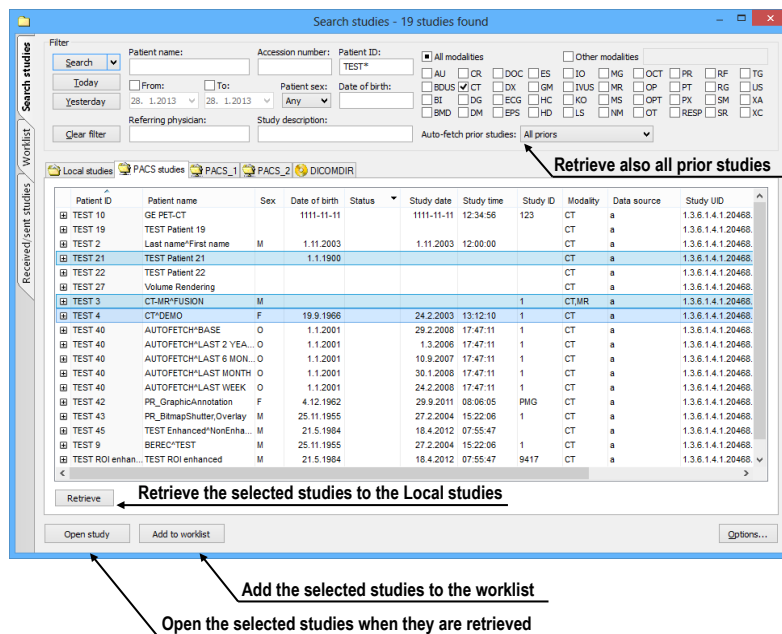

Figure 103 – Retrieving studies from the PACS server to the Local studies
2. The studies stored on the server that meet the filtering conditions will be included in the list (see Figure 103).